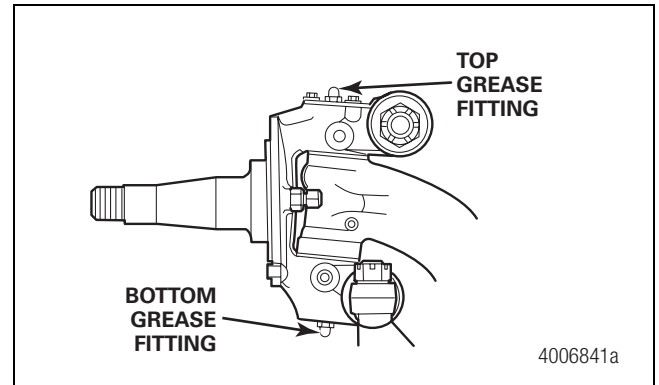

Figure 2.27
4. Lubricate the king pins through the top and bottom grease fittings. Figure 2.27.